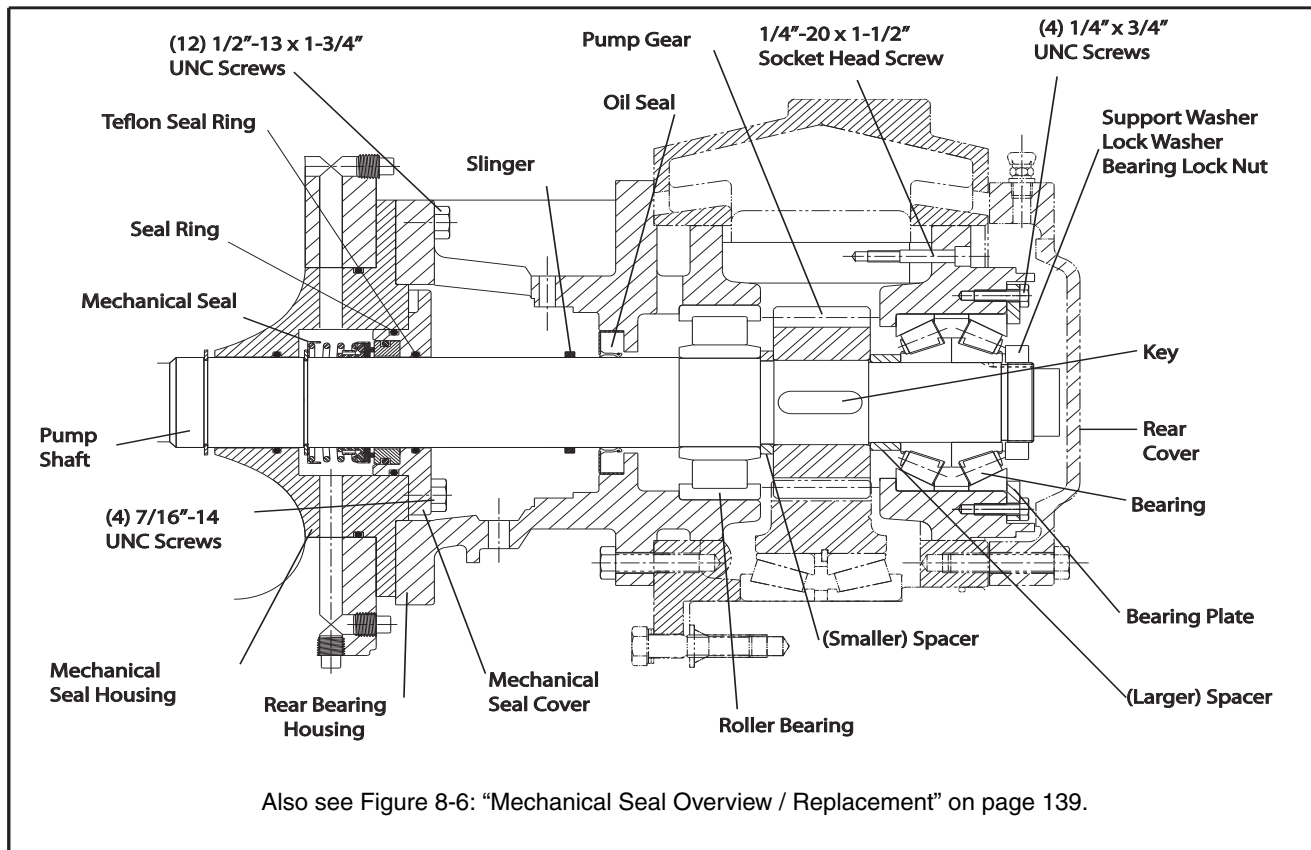
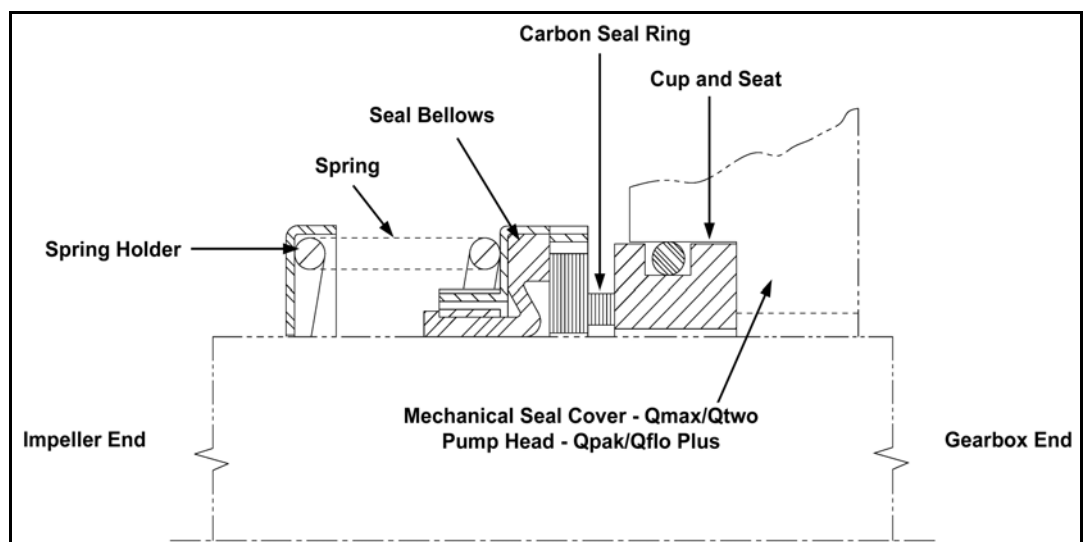

Figure 8-5: QmaxK and QtwoK Mechanical Seal Assembly Overview
Figure 8-6: Mechanical Seal Overview / Replacement
(See Figure 8-5: "QmaxK and QtwoK Mechanical Seal Assembly Overview.") Also see Figure 8-6: "Mechanical Seal Overview / Replacement" on page 139.
2. Remove bearing lock nut, lock washer, and support washer from impeller shaft. (See Figure 8-5: "QmaxK and QtwoK Mechanical Seal Assembly Overview" on page 139.)
16. Remove the old mechanical seal from the housing and impeller shaft. Two small hooks aid in the removal. (See Figure 8-6: "Mechanical Seal Overview / Replacement" on page 139.)